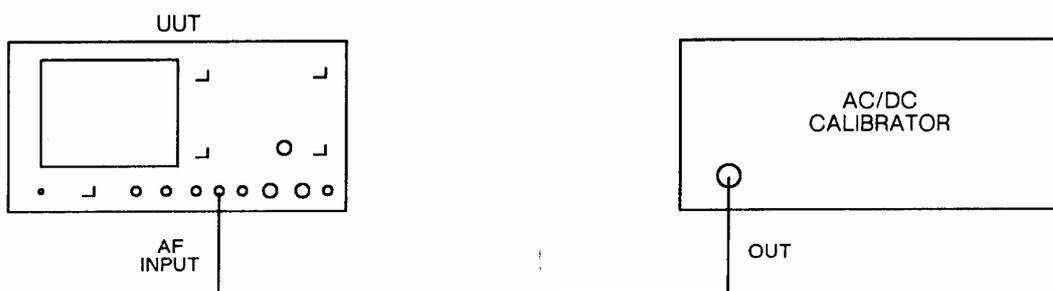

Fig. 5-1-7 Test equipment connections for voltmeter DC & AF level accuracy performance checks
- (1) Connect the equipment as shown in Fig. 5-1-7.